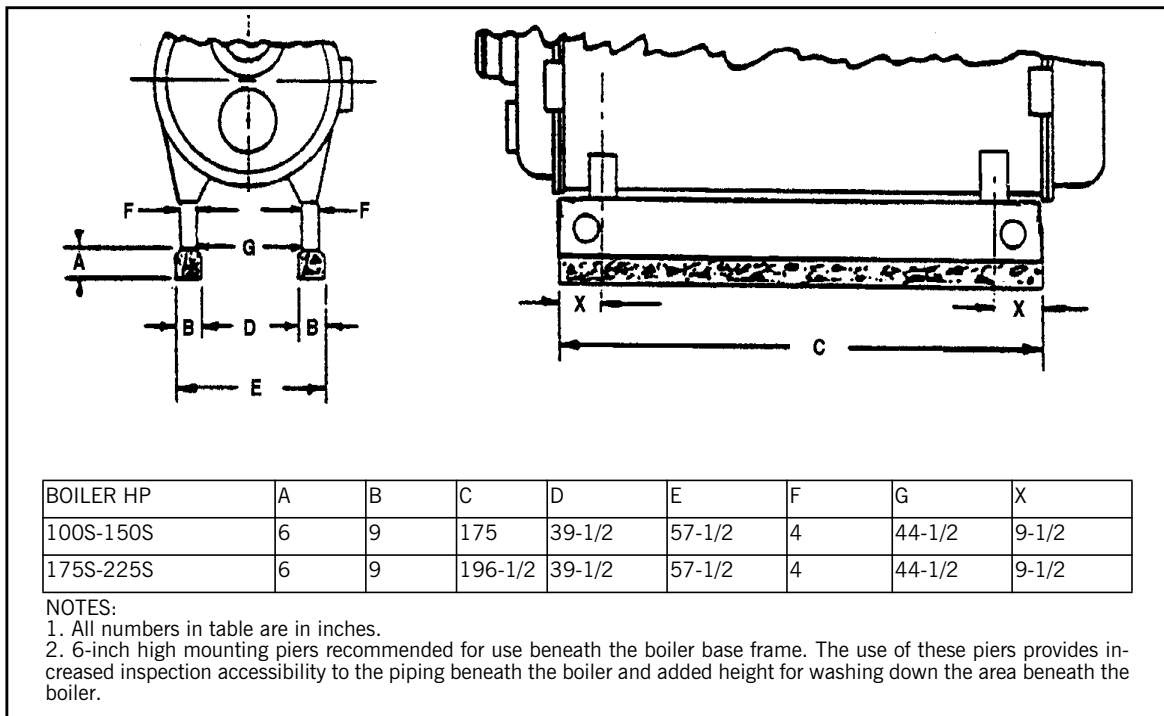

Figure 3. Model CEW Ohio Special Boiler Mounting Piers
- Figure 3. Model CEW Ohio Special Boiler Mounting Piers